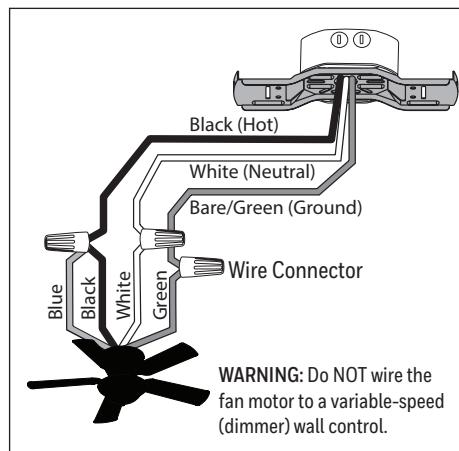

Figure 2.5
5. Connect the household supply wires and fan wires according to the diagram (Figure 2.5) and these steps: